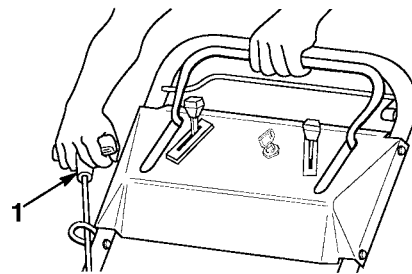

Figure 52
2. Slowly rotate engine several times, using starter rope, to distribute oil (Fig. 52).